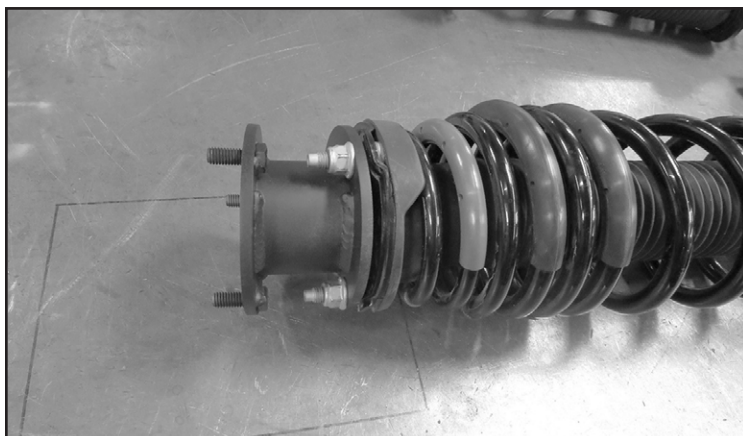

FIGURE 19 - STEP 31
31. Install FT31000 (Rear strut spacer) onto the top strut mount using the factory nuts. **NOTE: The smaller side of the angle should be installed on the front side. (Resi side).** **SEE FIGURE 19**